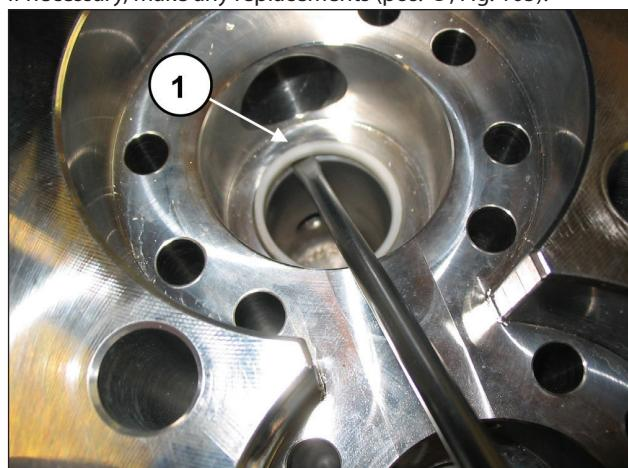

Fig. 105
If necessary, make any replacements (pos. ①, Fig. 105).